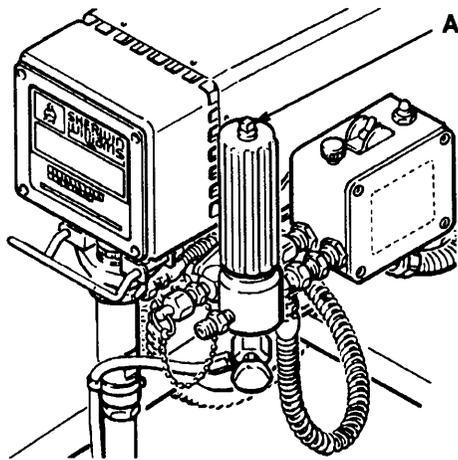

Fig 21
2. Remove the plug (A) from the top of the fluid filter and install the fluid-filled pressure gauge. *See Fig 21.* Connect the gun to the **new** test hose and connect the hose to the sprayer outlet.